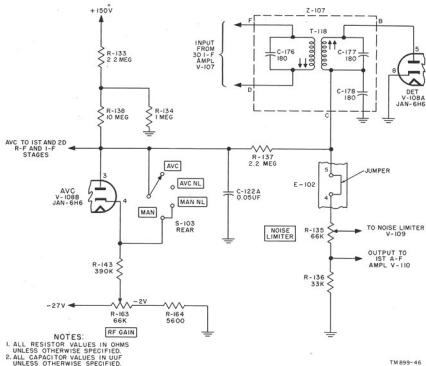

Figure 19. Detector and avc stages, simplified schematic diagram.
44. Detector and Automatic Volume Control Stages V-108A and V-108B (fig. 19)